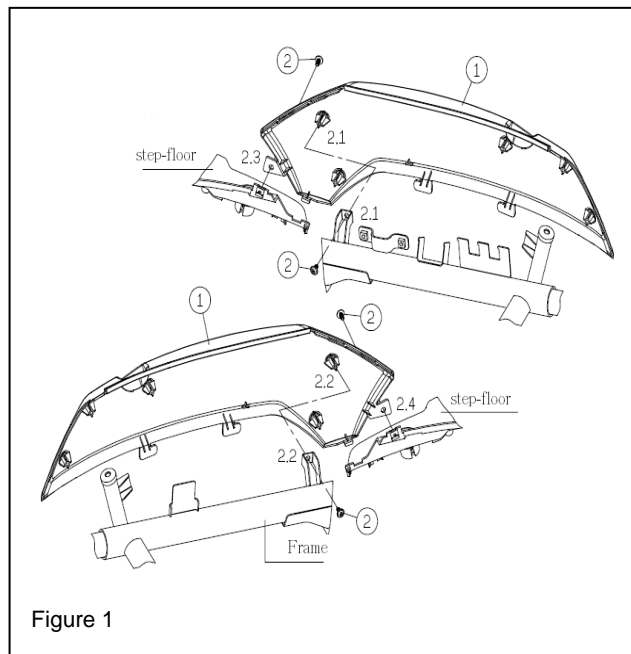

Figure 1
1. Remove the screws(2)- Figure 1.
1. The brake fluid extraction was complete, remove the joint bolt (11) and copper gasket(10), remove the brake master cylinder (6/8) screws and take out the brake master cylinder(6/8)- Figure (1.2).
2. Remove the bolts (4) and right haft switch fixing screws (7),take out the grip(9) 、 haft switch(2) and front right signallamp (6)- Figure 1.